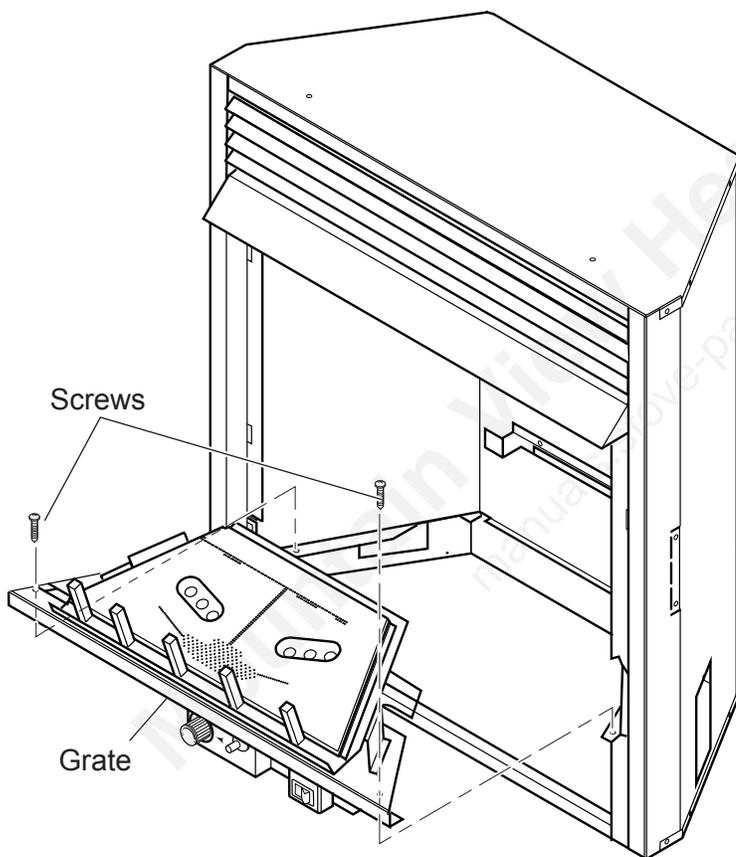

Figure 16 - Removing Grate
3. To remove the grate and base assembly, take out two (2) screws as shown in *Figure 16*.